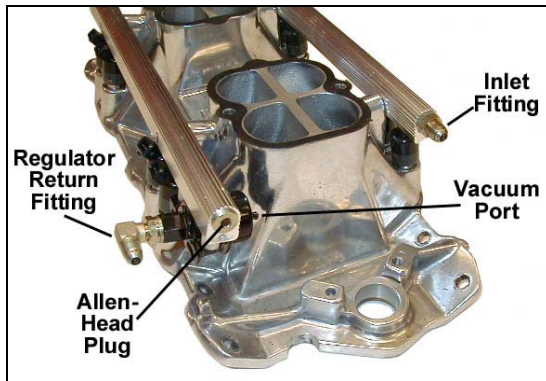

Figure 1
2. Install the fuel pressure regulator to the driver's side (long) fuel rail. Put a light amount of Vaseline or petroleum motor oil on the regulator o-ring before installing it in the fuel rail. Use the 2 aluminum spacers and 2 flat-head Allen screws (provided) to install the regulator. The regulator will be at the end of the rail on the driver's side. The regulator outlet will face the outside of the engine. Tighten the screws securely. See Fig. 1.
4. Install the (4) 1/4-20 x 1 Allen-head screws to fasten the rails to the lower intake manifold. Tighten them securely.